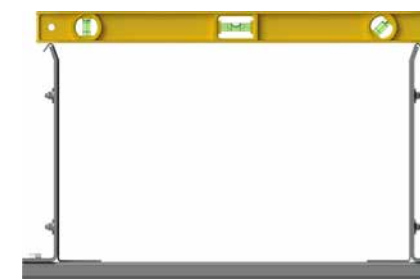

Fig. 2
- As level as possible (both in longitudinal and transversal direction (Fig. 2) – to avoid additional friction between the upper chain and the lower chain (or the supports) or to avoid possible lifting of the cable chain